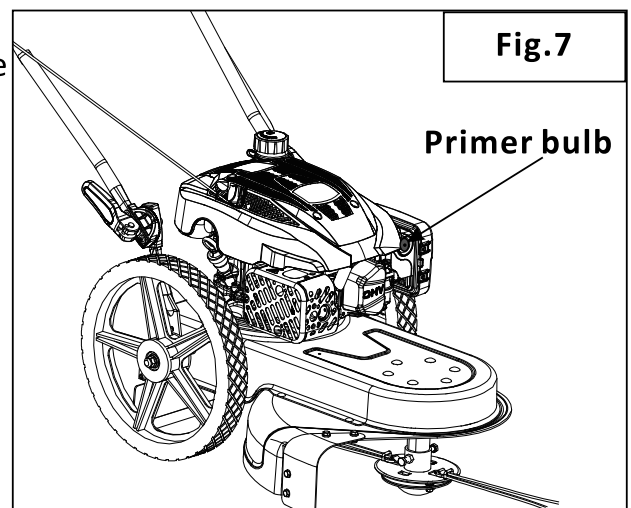

Fig.7
1. Press the priming bulb (Fig.7) 3 times to prime the cold engine.